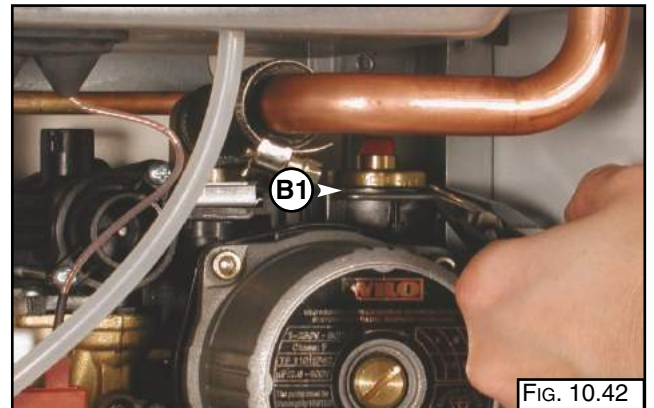

FIG. 10.42
1. Remove the U-clip "B1" (Fig. 10.42);